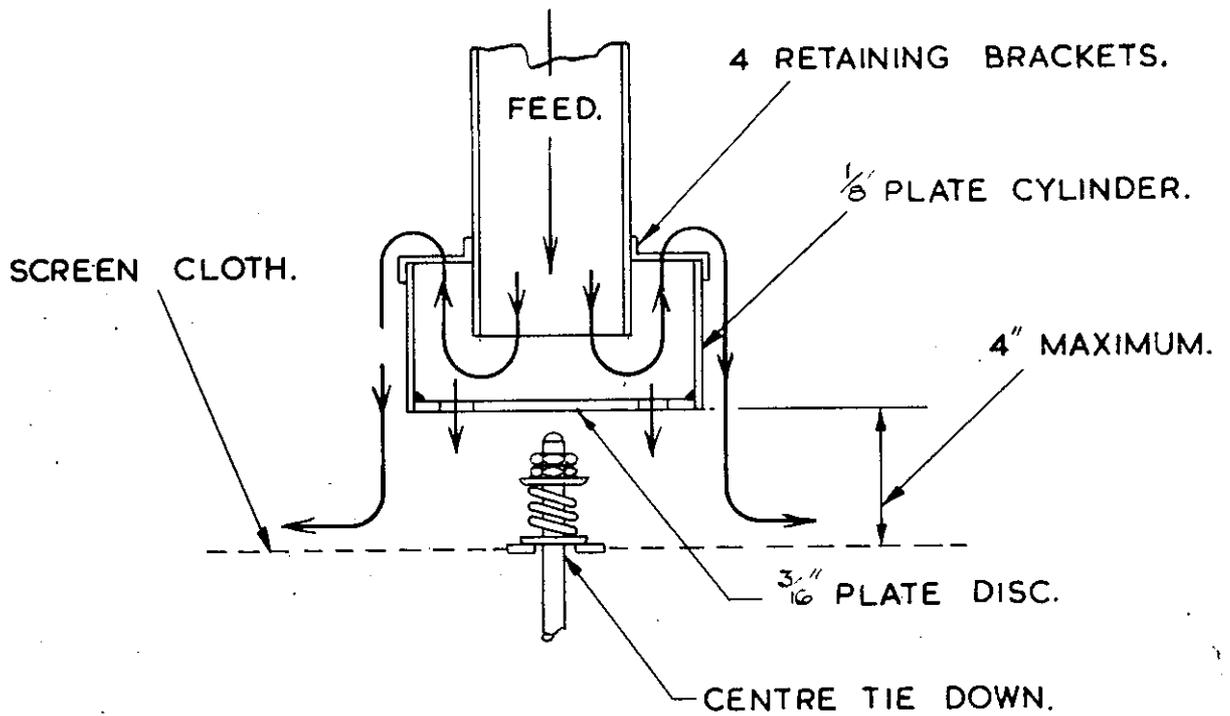

FIG. 2.
- (d) With wet screening, the velocity can be effectively reduced by employing a catch bucket of a type illustrated in Fig.2, page 4. This type of velocity reducer had proven successful for most wet screening installations, although minor changes may be required to meet specific problems. For high volume (in excess of 150 IGPM (681 litres)) dewatering service we can recommend designs for your fabrication.